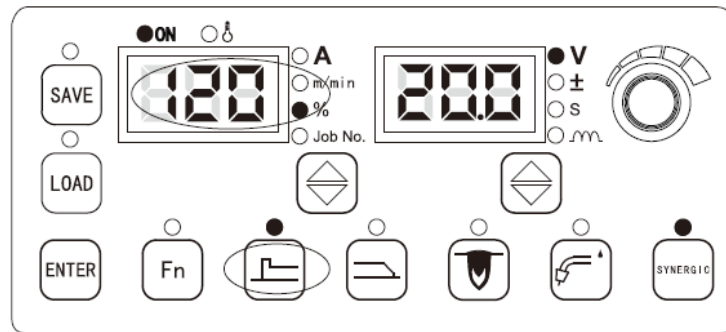

Figure 3-7 Setting the wire inching speed percentage for starting arc
2. When the % indicator is on and the left LED screen flashes, use the knob on the control panel to set the wire inching speed percentage for starting arc. Then, press the **ENTER**  button. See Figure 3-7.